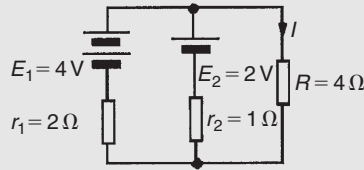

Figure 13.41
**Problem 9.** Use Thévenin's theorem to determine the current  $I$  flowing in the  $4\ \Omega$  resistor shown in Fig. 13.41. Find also the power dissipated in the  $4\ \Omega$  resistor.